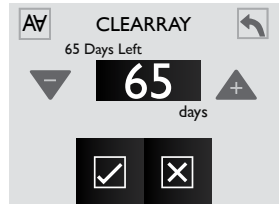

Figure 12.6c
The CLEARRAY UV bulb has a life expectancy of 1 year. A timer activates when power is applied and begins a countdown starting at 365 days. Once the timer expires, an error message will appear of the display, the UV bulb must be replaced and the timer needs to be reset. Tap **CLEARRAY 65** (Figure 12.6c) to enter the Programming Menu.
1. From the “Water Care” Menu you can to set the CLEARRAY UV bulb timer, Figure 12.6c.